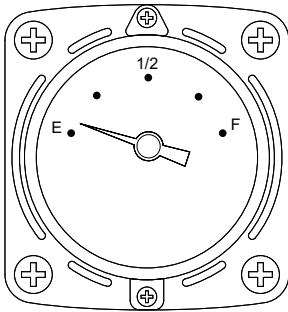

Figure 19. Fuel Gauge
1. The fuel tank used with this pump has a built in fuel gauge (Figure 19) within the tank. Read the fuel gauge to determine if the fuel level is low.